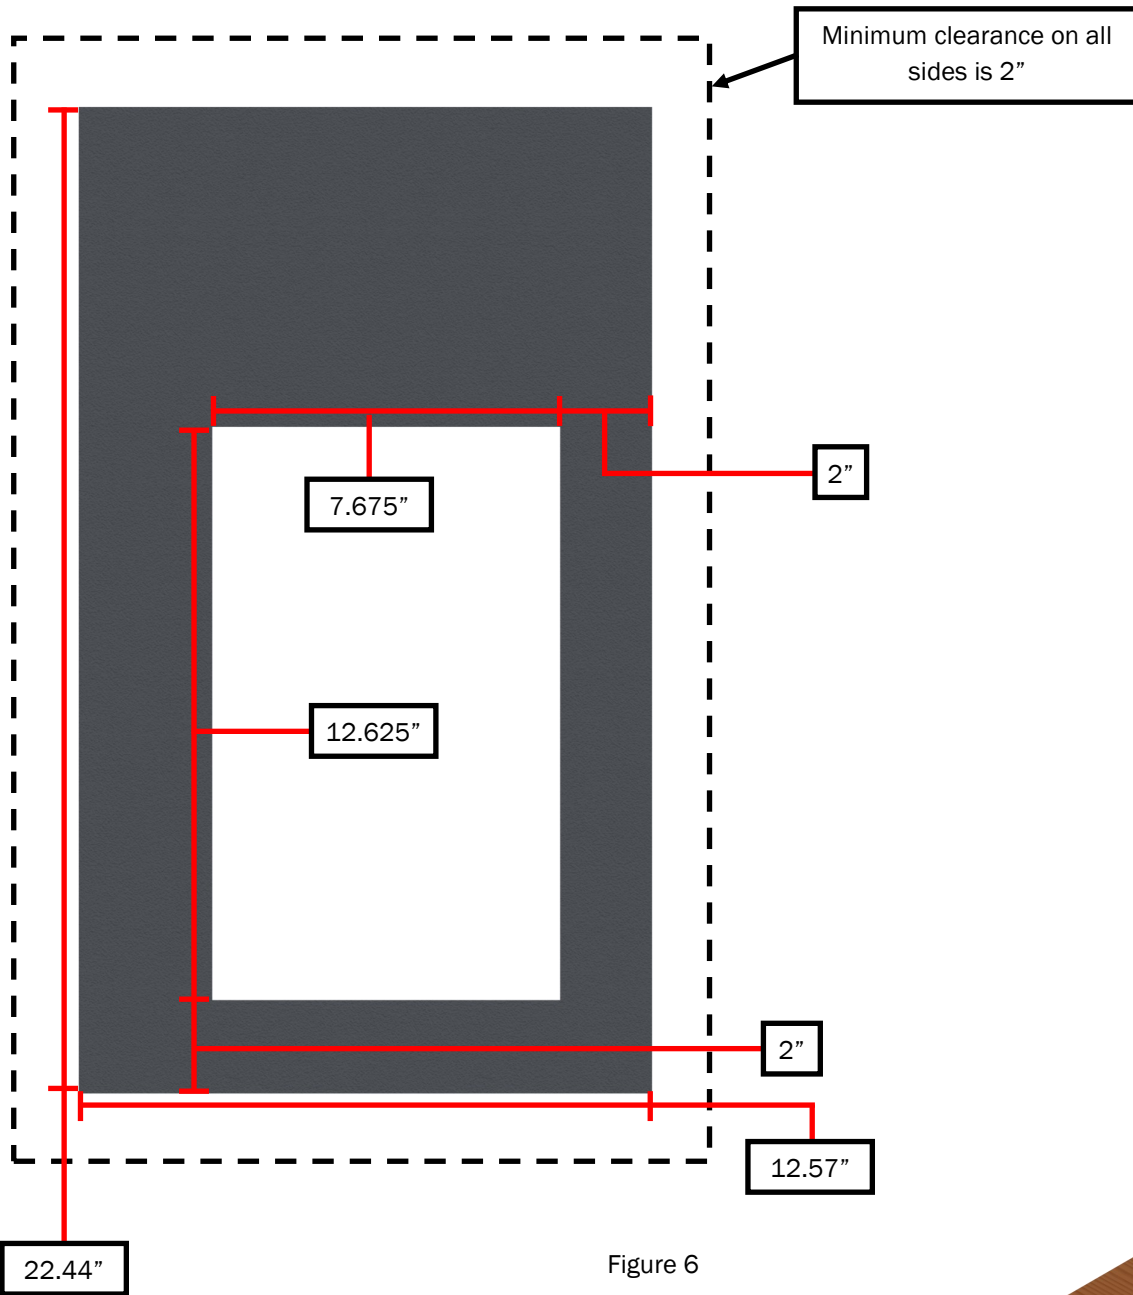

Figure 6
2. Cut out the required mounting flange opening. Reference figure 6 on the next page.
- Floor cut-out information reference figure 6, page 10
NOTE: The mounting flange of the Aqua-Hot is not centered on the body of the heater. Reference figure 6 for correct dimensions to construct the surface on which the Aqua-Hot will be mounted.